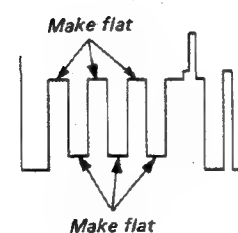

Fig. 12-2
5. Adjust RV5 of BC board so that the output waveform as shown in Fig. 12-2.